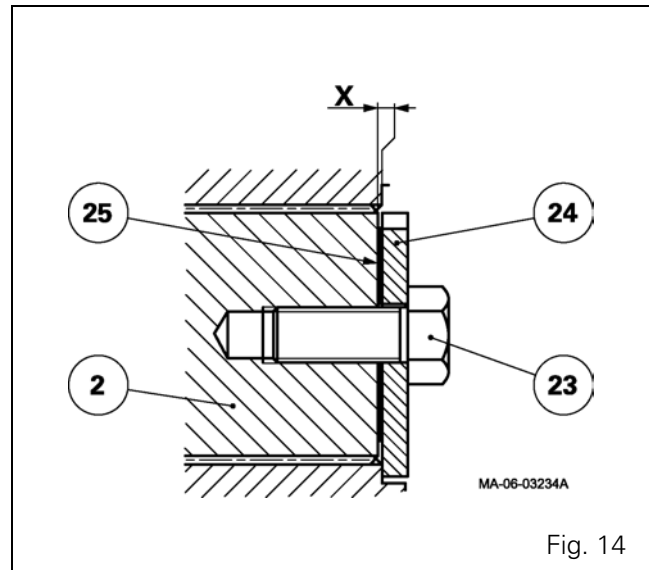
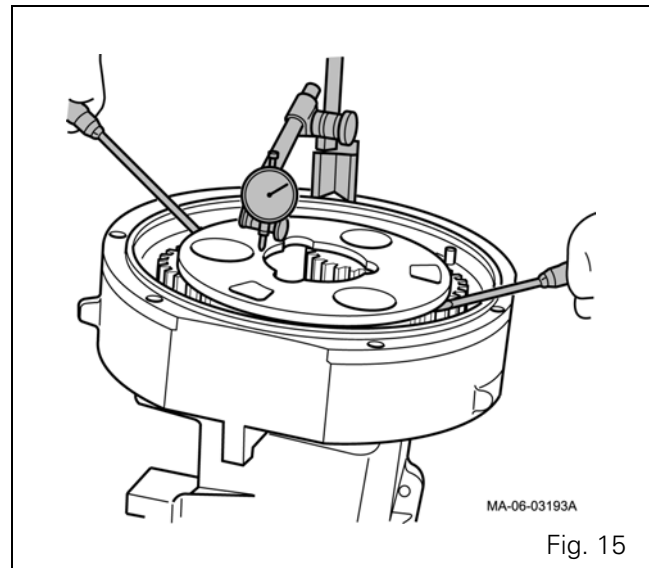

Fig. 14
Fig. 15
79. Remove the screw (23) and washer (24).
81. Set a thickness of shims (25) greater than dimension X in order to obtain clearance (Fig. 14).
82. Fit the washer (24) and screw (23) and tighten to a torque of 270 - 440 Nm.
83. Using a dial gauge, check the clearance by moving the planet carrier axially (Fig. 15).
84. Remove the screw (23) and washer (24).